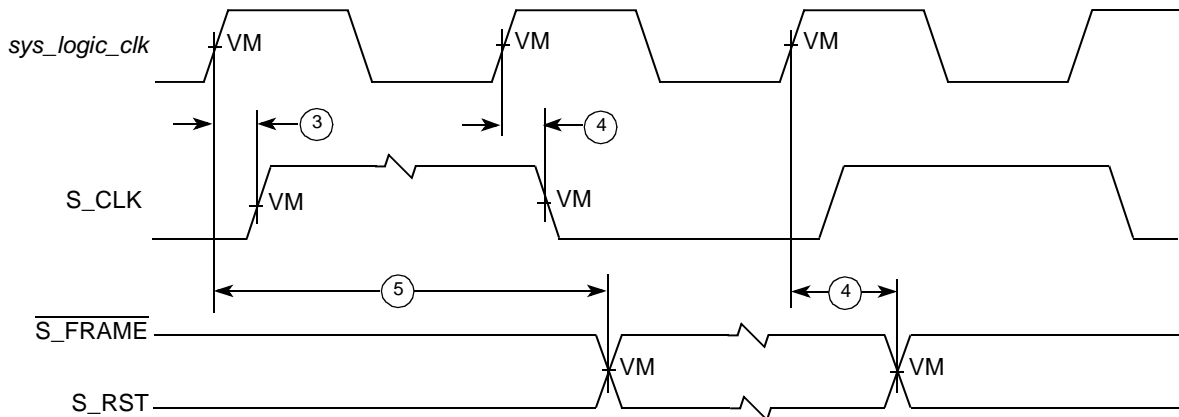
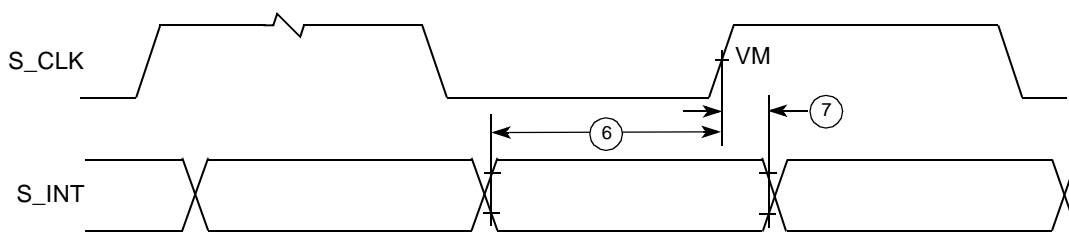

Figure 18. PIC Serial Interrupt Mode Output Timing Diagram
Figure 19. PIC Serial Interrupt Mode Input Timing Diagram
2. S\_RST, S\_FRAME, and S\_INT shown in Figure 18 and Figure 19, depict timing relationships to *sys\_logic\_clk* and S\_CLK and do not describe functional relationships between S\_RST, S\_FRAME, and S\_INT. The *MPC8245 Integrated Processor Reference Manual* describes the functional relationships between these signals.